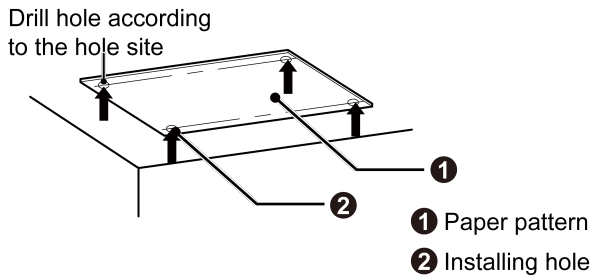
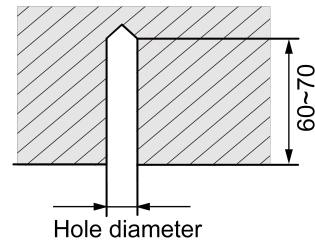

Fig 4.1.3
Fig 4.1.4
- (1) Cut out the installation paper pattern according to the hook installation dimension of unit. Place the installation paper pattern on the installation area as shown in Fig 4.1.3. Punch holes on the installation area according to the 4 spots on the paper pattern; The punching diameter may refer to the diameter of expansion bolt, about 60mm to 70mm depth, as shown in Fig 4.1.4.